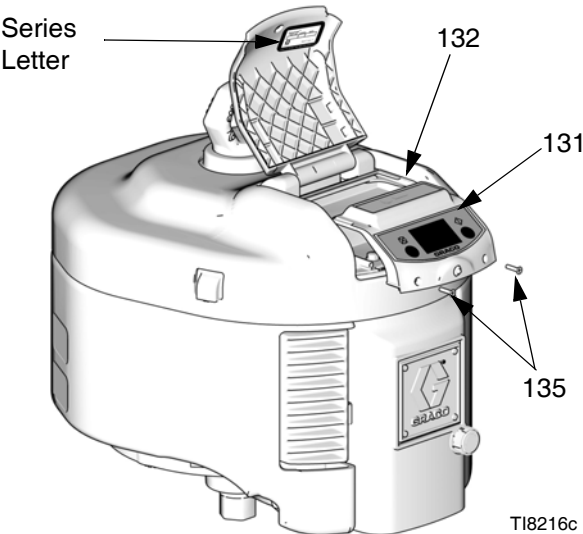

FIG. 4. Remove DataTrak Module
1. Remove two screws (135). Carefully slide the DataTrak module (131) out of the housing (132). See FIG. 4.
\* FIG. 4 shows where to find the Series letter.